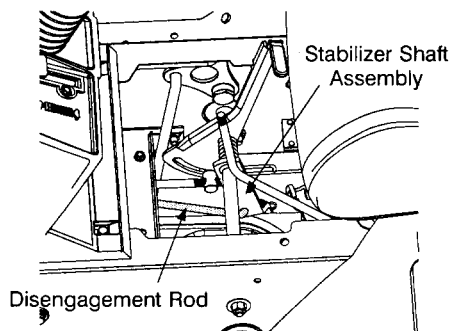

FIGURE 10
- Remove the hairpin clip which secures the disengagement rod to the stabilizer shaft assembly. See Figure 10.